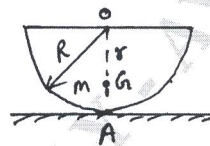

Fig Q3(b)
b. Find the natural frequency of vibration of the half solid cylinder shown in Fig Q3(b), when slightly displaced from the equilibrium position and released by using i) Newton's method